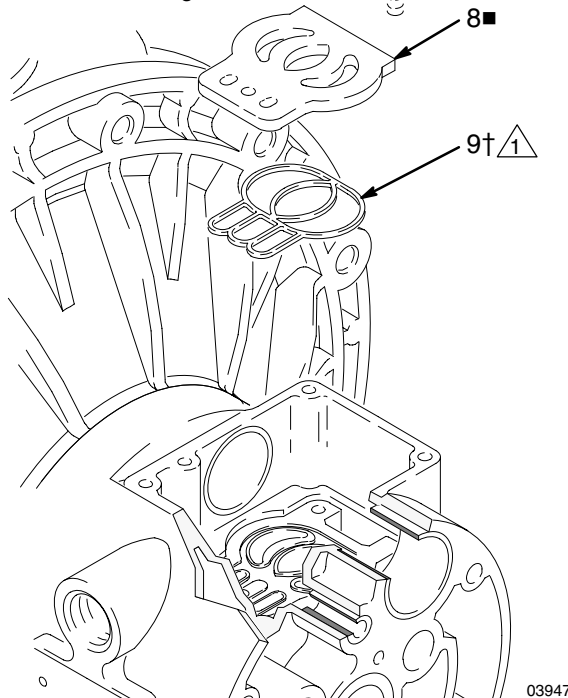

Fig. 9
5. Inspect the valve plate (8) in place. If damaged, use a Torx (T20) screwdriver or 7 mm (9/32") socket wrench to remove the three screws (3). Remove the valve plate (8) and, on aluminum center housing models only, remove the seal (9). See Fig. 9.
2. On aluminum center housing models, install the valve plate seal (9†) into the groove at the bottom of the valve cavity. The rounded side of the seal **must face down** into the groove. See Fig. 9.
3. Install the valve plate (8■) in the cavity. On aluminum center housing models, the plate is reversible, so either side can face up. Install the three screws (3), using a Torx (T20) screwdriver or 7 mm (9/32") socket wrench. Tighten until the screws bottom out on the housing. See Fig. 9.